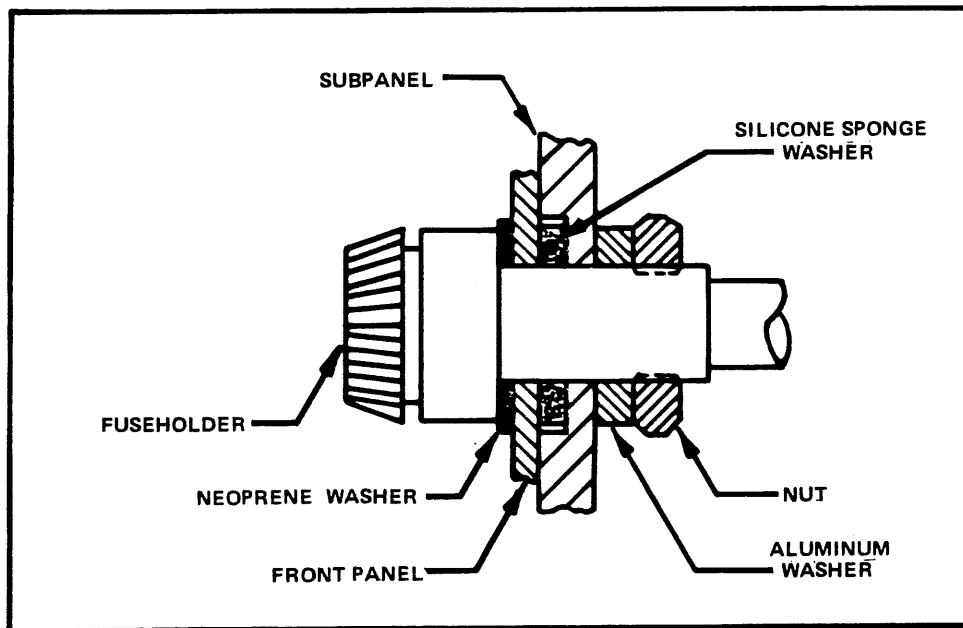

Figure 9. Detail of Fuseholder installation.
STEP 14. Install Fuseholders in Front Panel (see Figure 9)**A. FUSEHOLDERS**
- (1) 1502 TPN 352-0362-00, MPL Item 2-24.
- (2) 1503 TPN 352-0362-00, MPL Item 2-26.
- (1) Install the two Fuseholders as shown in Figure 9.
- (2) Tighten the retaining nut on the fuseholder until the Front Panel is pulled flush with the Subpanel.